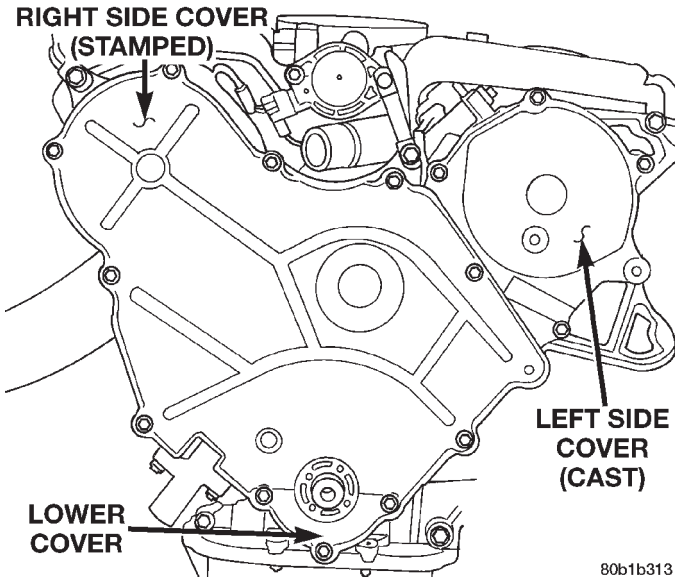
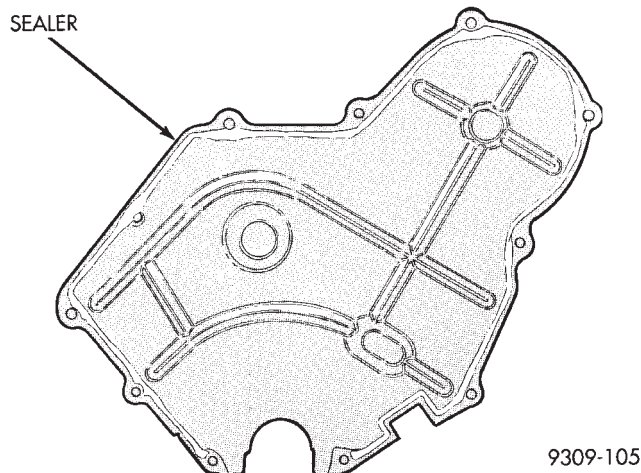

Fig. 65 Timing Belt Covers
Fig. 66 Sealer, Timing Belt Cover
(7) Remove the lower belt cover located behind the crankshaft damper (Fig. 65).
(8) Remove the stamped steel cover (Fig. 65). **Do not remove the sealer on the cover, it is reusable (Fig. 66).** If some sealer is missing use Mopar® Silicone Rubber Adhesive Sealant or equivalent to replace the missing sealer.
(9) Remove the left cast cover (Fig. 65).
- (1) Install the left cast cover (Fig. 65) and accessory belt tensioner pulley and bracket.
- (2) Install the right stamped steel cover (Fig. 65).
- (3) Install the lower cover (Fig. 65).
- (4) Install the crankshaft damper using Special Tools C-4685-C1 Bolt (5.9 in.) and 6792-1. Install center bolt, and while holding damper with Special Tool 8191, tighten center bolt to 115 N·m (85 ft. lbs.).
- (5) Install the fan module and upper radiator crossmember.
- (6) Connect negative cable to remote jumper terminal.